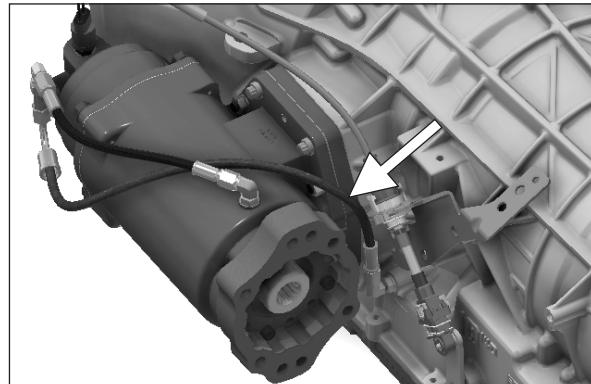

Figure 39
9. Connect hose to the fitting on the transmission. Chelsea recommends all hoses be routed above the PTO as shown in (Fig. 39). Some large pumps may require lube hose to be routed below the PTO due to clearance to the transmission fitting. Hold hose fitting in desired position and tighten lock nut with a wrench until solid feeling is encountered. From that point, apply one-sixth turn. Next, connect the other end of the hose to fitting on the PTO valve cap. Tighten until solid feeling is encountered. From that point, apply one-sixth turn.